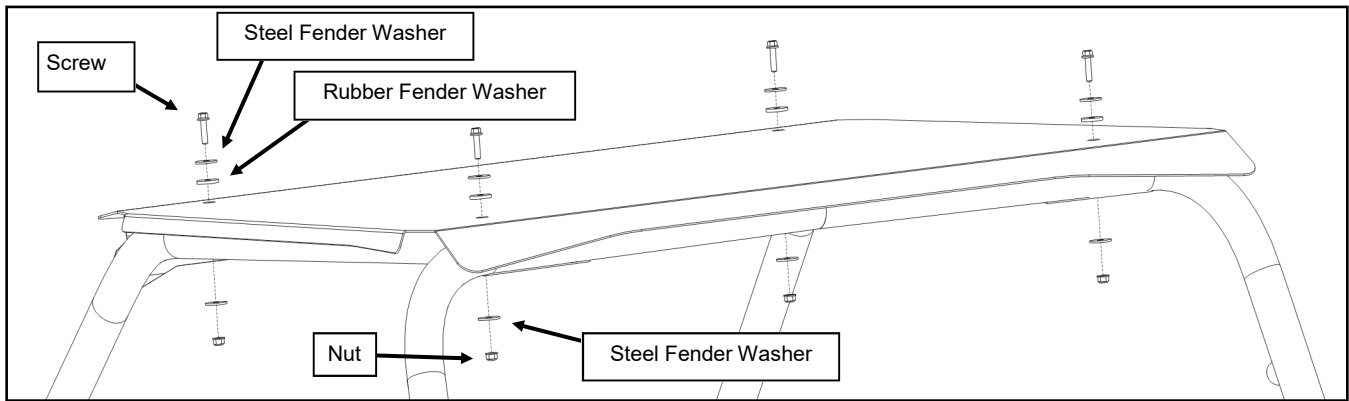

Fig. 1.2 (Roof Hardware)
1.2 Secure the roof to the vehicle using the supplied hardware listed below. See figure 1.2 for hardware orientation. Do not overtighten fasteners or damage may occur to the rubber sealing washers. Stop tightening when rubber washer just starts to bulge.